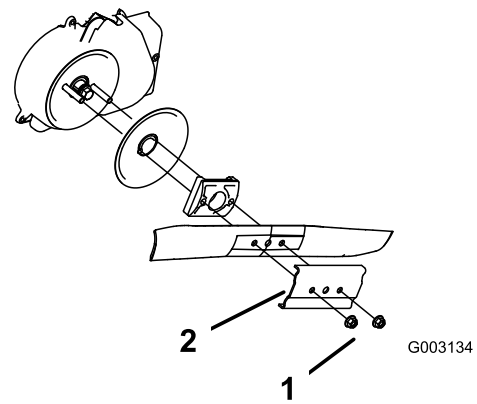

Figure 41
3. Remove the 2 blade nuts and the stiffener (Figure 41).
4. Remove the blade (Figure 41).
5. Install the new blade (Figure 41).